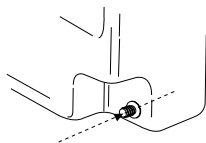

Fig. 2
- 2) Make a hole on the inside of the canister spout using a drill with a fine bit. Fig. 2.